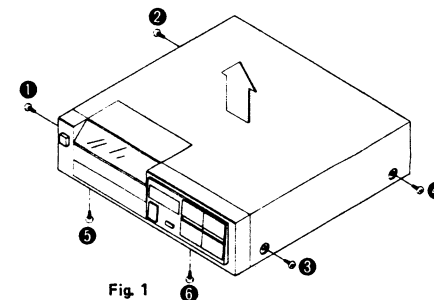

Fig. 1
1. Remove the 4 setscrews [Fig. 1 ; ① ~ ④] to remove the cabinet in the direction of the arrow.
2. Remove the 2 setscrews [Fig. 1 : ⑤, ⑥] of the front panel.